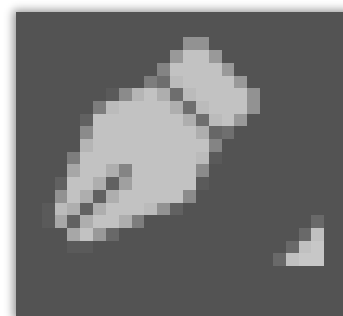

Figure 5: The Pen Tool icon.
- a. Select the pen tool (**Figure 5**)